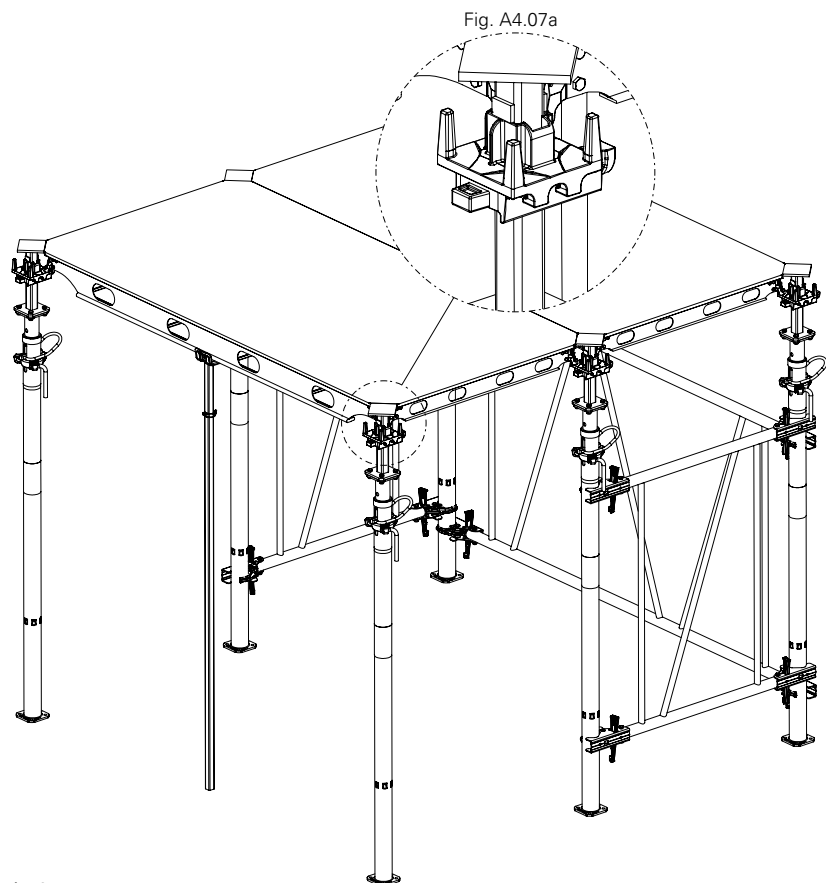

Fig. A4.07
3. Attach the next two props to the panel corners in the same manner. (Fig. A4.07)